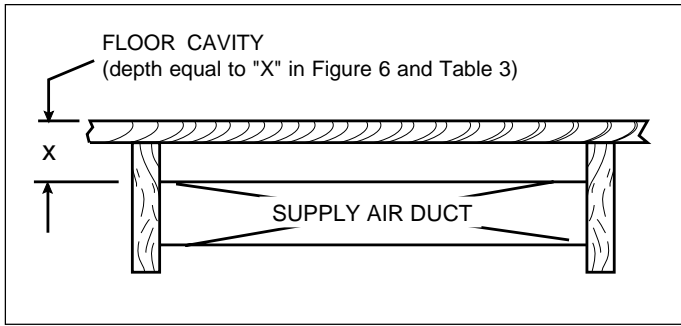

Figure 4. Floor Cavity Cut-Out
- Determine depth of floor cavity from surface of floor to top of supply air duct (See Figure 4).